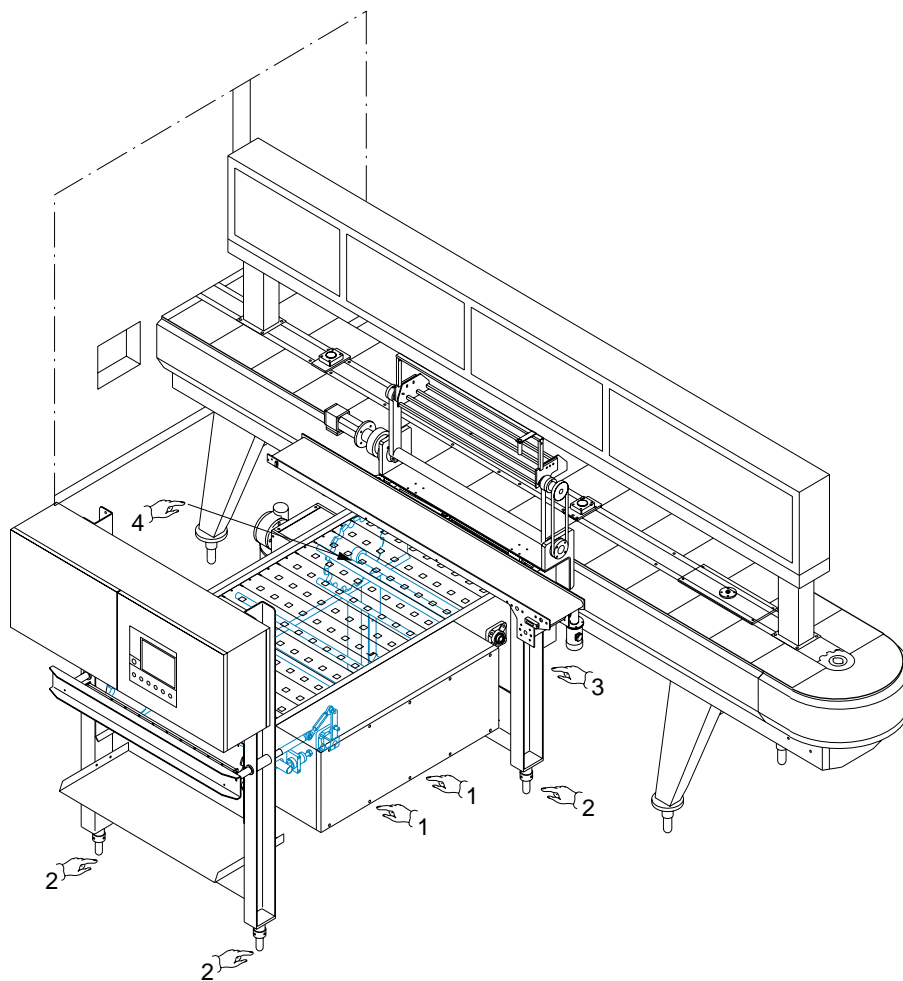

Fig.4.1
- a. Position the machine at the production location (refer to the annexed layout), using a forklift of adequate capacity to move it (*Pos. 1, Fig. 4.1 illustrates correct insertion of forks*). Make sure that there is sufficient space to permit removal of protection and allow access to components inside the machine.
- c. Connect the pick-up machine to the tunnel, fastening it using the tie rods provided (*Pos. 3, Fig. 4.1*).